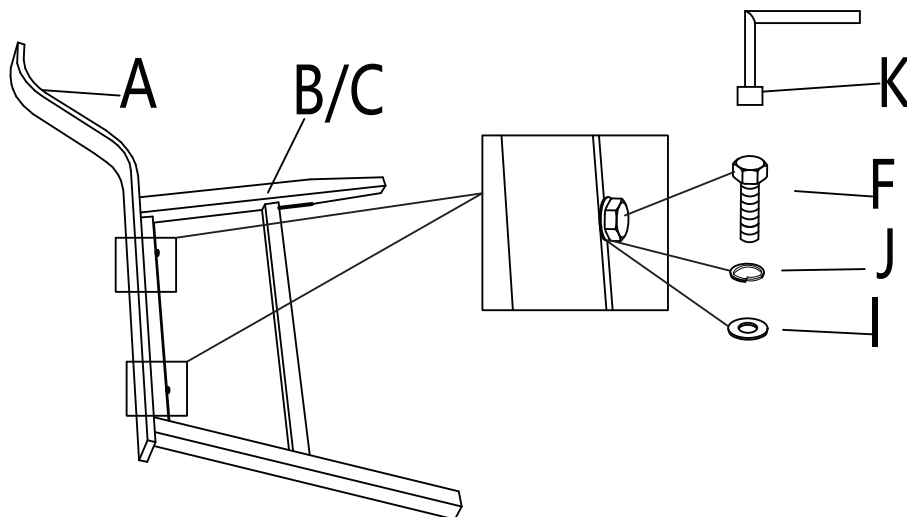

Figure 1
- 1 Attach the arm (A) to the left leg (B) with M6\*40 bolt (F), M6 lock washer (J) and M6 washers (I) using socket wrench (K). The same operation to the arm (A) and the right leg (C). See figure 1.